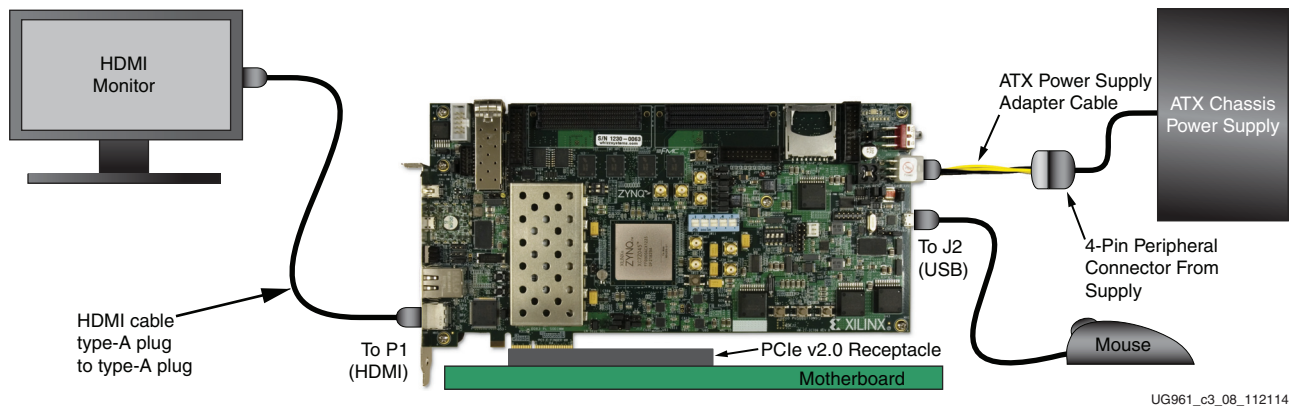

Figure 3-8: ZC706 Board TRD Setup in Host Computer
6. Connect the ATX power supply to the ZC706 board using the ATX power supply adapter cable as shown in Figure 3-8.
7. Connect one end of the HDMI cable to the ZC706 HDMI slot (P1) and the other end to the HDMI monitor (Figure 3-8).